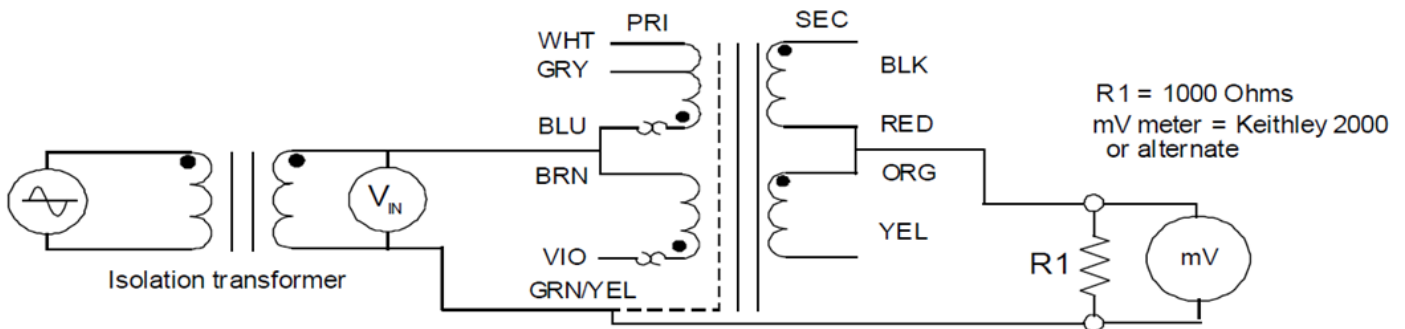
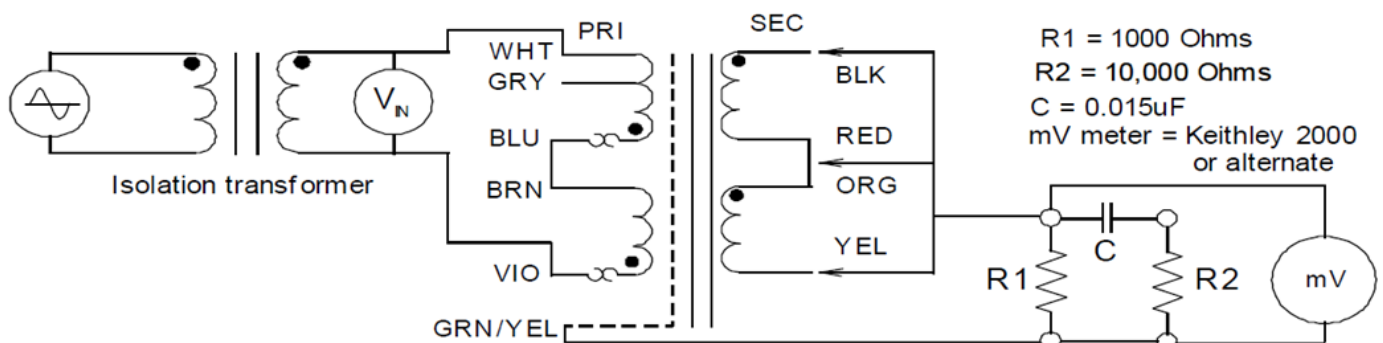

Figure 1
Figure 2
8. Earth Leakage: $\leq 10\mu A$ (See Fig. 1), Patient Leakage: $\leq 25\mu A$ (see Fig. 2)